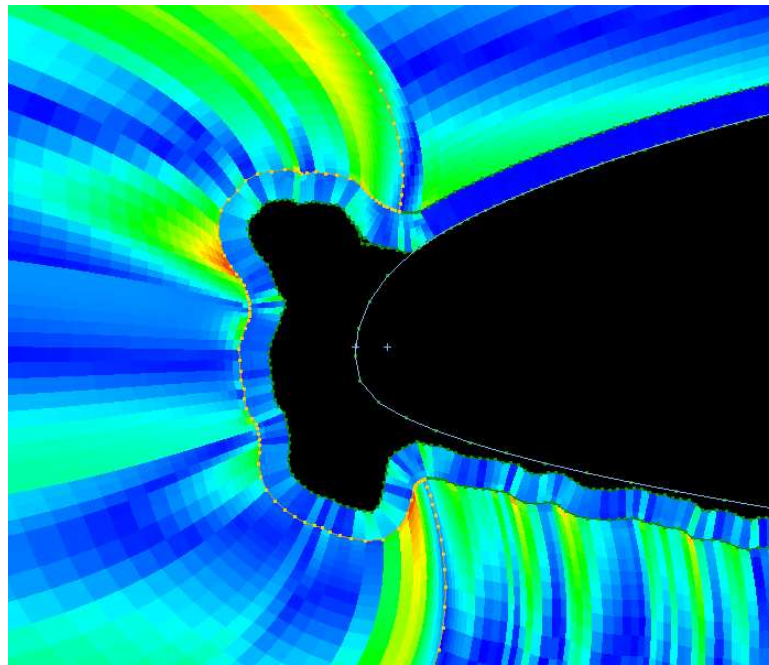

Figure 22. Grid cells colored by orthogonality; grid lines turned off.
- You may find it easier to see the colors of individual cells if you turn off display of the grid lines. From the main menu select **View→Show→Grid** to turn display of the grid off and on. The graphics window should look similar to Figure 22.